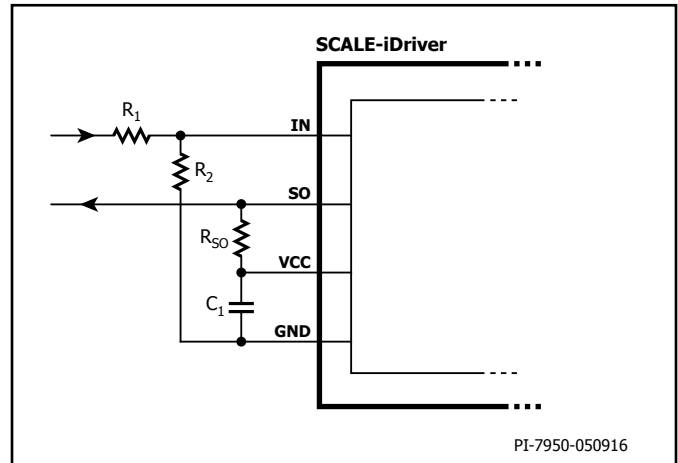
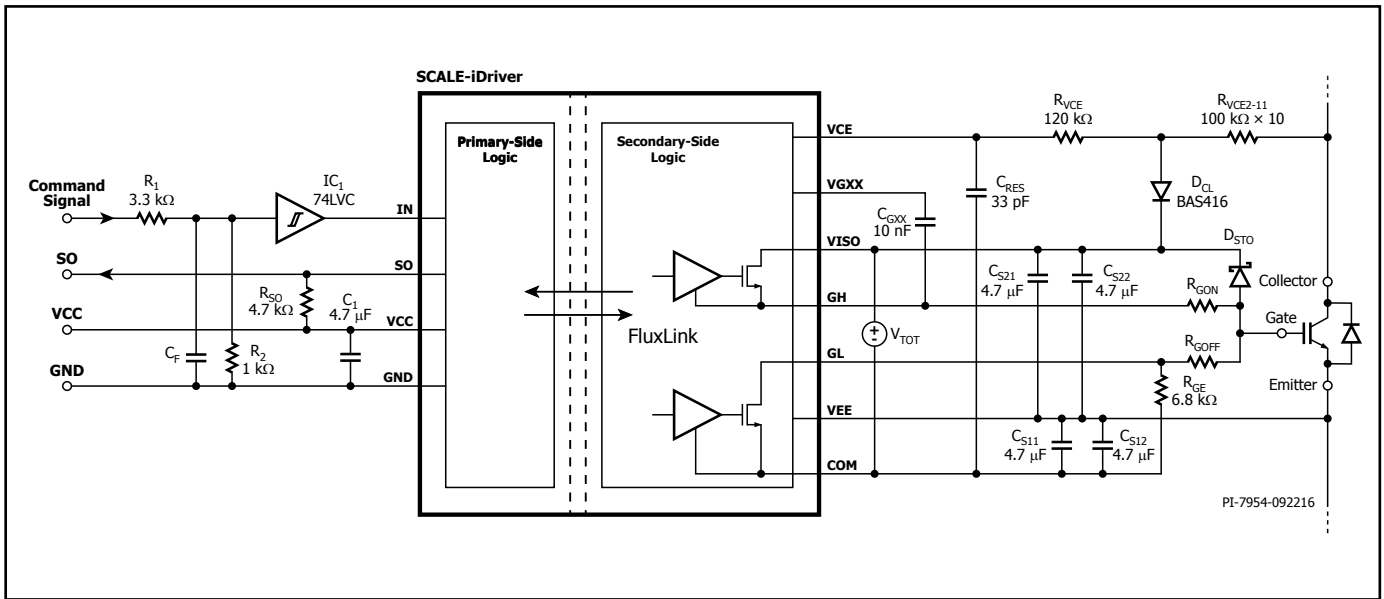

Figure 5. Increased Threshold Voltages V_{IN+LT} and V_{IN+HT} For $R_1 = 3.3\text{ k}\Omega$ and $R_2 = 1\text{ k}\Omega$ the IN Logic Level is 15 V.
Figure 13. SCALE-iDriver Application Example Using a Resistor Network for Desaturation Detection.
The input (IN) and output (SO) logic is designed to work directly with micro-controllers using 5 V CMOS logic. If the physical distance between the controller and the SCALE-iDriver is large or if a different logic level is required the resistive divider in Figure 5, or Schmitt-trigger ICs (Figures 13 and 14) can be used. Both solutions adjust the logic level as necessary and will also improve the driver's noise immunity.
and power-down. Any supply voltage related to VCC, VISO, VEE and VGXX pins should be stabilized using ceramic capacitors C_1 , C_{S1X} , C_{S2X} , C_{GXX} respectively as shown in Figures 13 and 14. After supply voltages reach their nominal values, the driver will begin to function after a time delay t_{START} .
Figures 13 and 14 show the schematic and typical components used for a SCALE-iDriver design. In both cases the primary-side supply voltage (V_{VCC}) is connected between VCC and GND pins and supported through a supply bypass ceramic capacitor C_1 (4.7 μ F typically). If the command signal voltage level is higher than the rated IN pin voltage (in this case 15 V) a resistive voltage divider should be used. Additional capacitor C_F and Schmitt trigger IC_1 can be used to provide input signal filtering. The SO output has 5 V logic and the R_{SO} is selected so that it does not exceed absolute maximum rated I_{SO} current.
Figure 13 shows how switch desaturation can be measured using resistors $R_{VCE2} - R_{VCE11}$. In this example all the resistors have a value of 100 kΩ and 1206 size. The total resistance is 1 MΩ. The resistors should be chosen to limit current to between 0.6 mA to 0.8 mA at maximum DC-link voltage. The sum of $R_{VCE2} - R_{VCE11}$ should be approximately 1 MΩ for 1200 V semiconductors and 500 kΩ for 600 V semiconductors. In each case the resistor string must provide sufficient creepage and clearance distances between collector of the semiconductor and SCALE-iDriver. The low leakage diode D_{CL} keeps the short-circuit duration constant over a wide DC-link voltage range.
Figure 15 shows the recommended PCB layout and corresponds to the schematic in Figure 13. The PCB is a two layer design. It is important to ensure that PCB traces do not cover the area below the desaturation resistors or diodes D_{VCE1} and D_{VCE2} . This is a critical design requirement to avoid coupling capacitance with the SCALE-iDriver's VCE pin and isolation issues within the PCB.